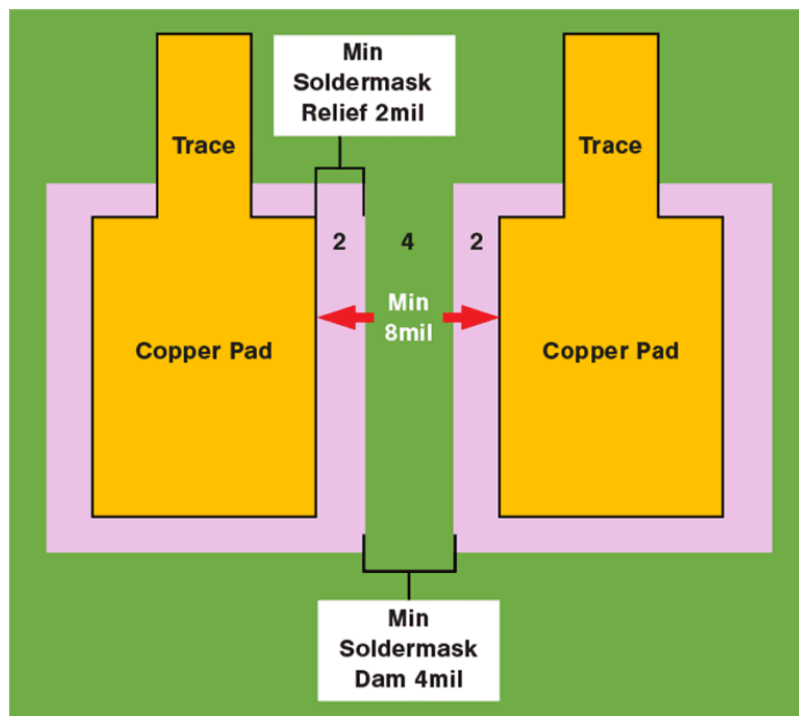

Figure 3. Solder mask coating between SMD pads prevents solder paste from flowing across parts. (Source: IPC-A-610)
- **Solder mask slivers.** When placement is very dense, a solder mask web with a width less than 4 mils (3 mils being the minimum) can lift off the PCB surface later in the assembly process, creating the risk of solder bridging (**Figure 3**).